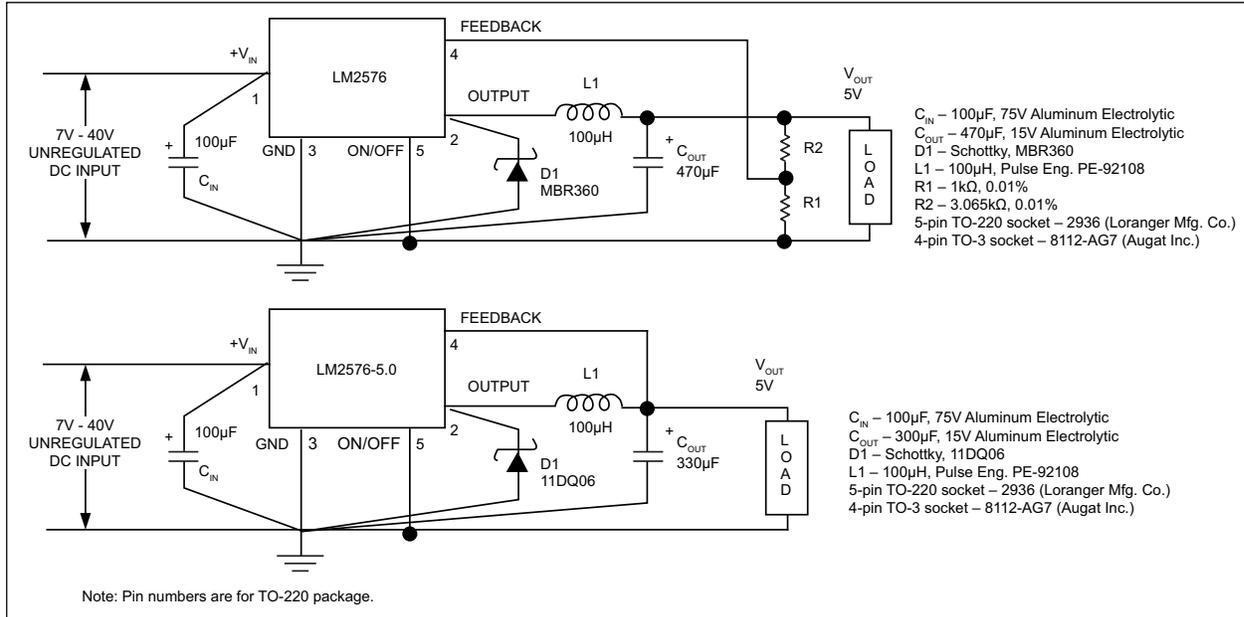

FIGURE 4-1: Test Circuit.
- 2: External components such as the catch diode, inductor, input and output capacitors can affect switching regulator system performance. When the LM2576/LM1576 is used as shown in Figure 4-1 test circuit, system performance will be shown in system parameters section of Electrical Characteristics.
System Parameters, 12V Regulators (Note 2) Test Circuit Figure 4-1
On/Off Control, Fixed and Adjustable Regulators, Test Circuit Figure 4-1
2: External components such as the catch diode, inductor, input and output capacitors can affect switching regulator system performance. When the LM2576/LM1576 is used as shown in Figure 4-1 test circuit, system performance will be shown in system parameters section of Electrical Characteristics.